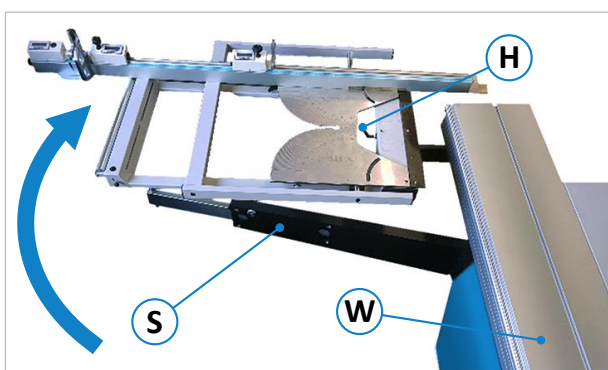
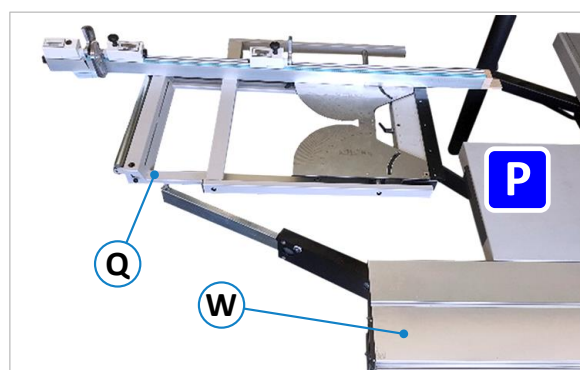

Figure 79: Swivel away cross slide
Figure 80: Final parking position
- Turn the cross slide (**Q**) by 90° to the right. Then swivel it backward to bring it into its final parking position behind the slide table (see ⇒ Figure 79 and ⇒ Figure 80).